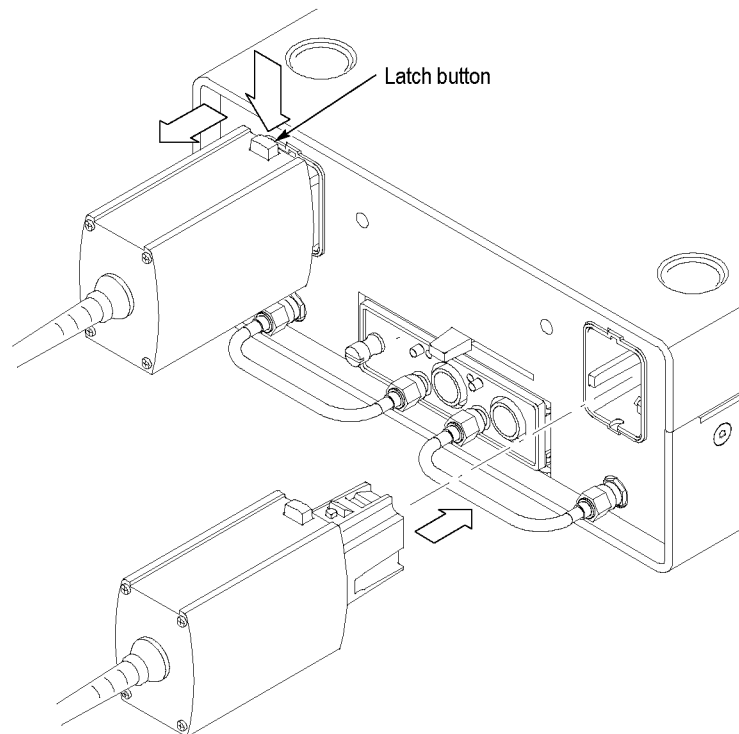

Figure 6: Installing TekConnect probes
1. Slide the probe into the TekConnect receptacle on the TekConnect Probe Interface Module. The probe snaps into the TekConnect Probe Interface Module when fully engaged. (See Figure 6.)